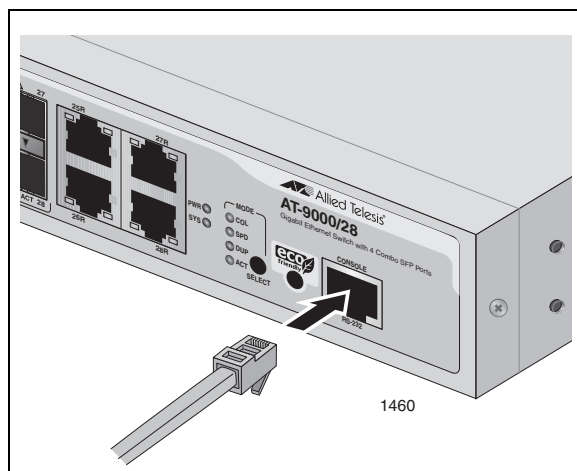

Figure 14. Connecting the Management Cable to the RJ-45 Console Port on the Switch
1. Connect the RJ-45 end of the management cable included with the AT-9000/28 Gigabit Ethernet ecoSwitch to the Console Port on the front panel of the switch, as shown in Figure 14.